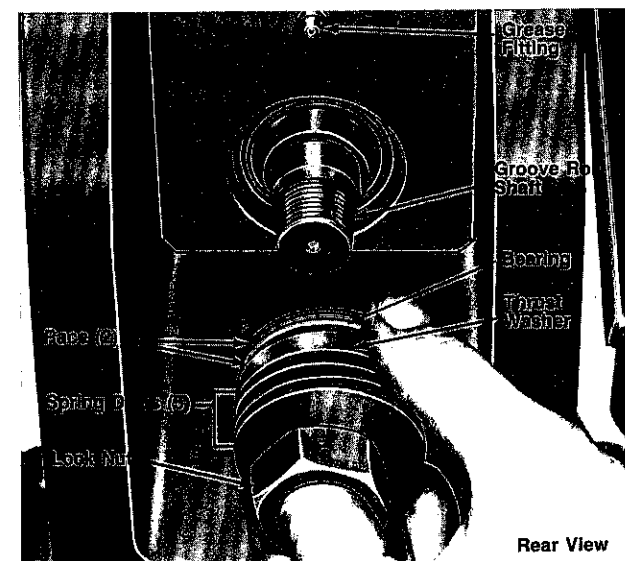
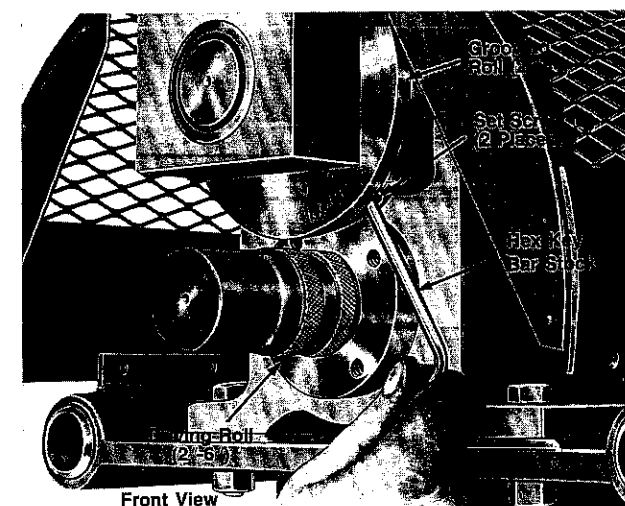
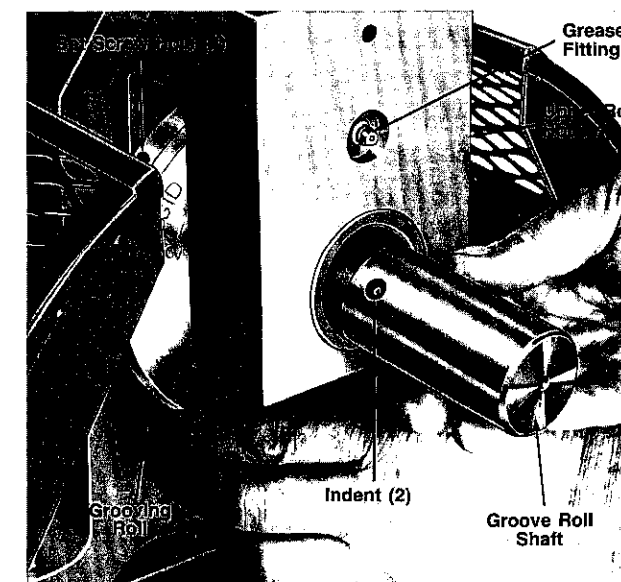

Figure 28. Groove Roll Shaft
Figure 29. Groove Roll and Shaft Connection
Figure 30. Installing Groove Roll
2. Loosen and remove Groove Roll Shaft Lock Nut with 1 5/16" socket and remove Spring Discs, Thrust Washer, Races and Bearing (Figure 28).
**Note:** Groove Roll Shaft must be wedged to Drive Roll to loosen Lock Nut. Use small Bar Stock in Groove Roll Set Screw holes (See Figure 29).
3. Loosen Set Screws (2) from access holes (2) in Groove Roll with 3/16" Hex Key (Figure 29).
4. Remove Groove Roll Shaft and slide out Groove Roll (Figure 30).
8. Tighten Groove Roll Set Screws (2) making sure they seat in Indents (2) of Groove Roll Shaft (Figure 30). Torque to 40 Ft.-Lbs.
9. Reinstall Races, Bearing, Thrust Washer and Spring Discs (5). Note order in Figure 28.
**Caution:** Spring Discs (5) are cupped and must be installed offset to each other to create the required spring tension.
**Note:** Groove Roll Shaft must be wedged to Drive Roll to tighten Lock Nut. Use small Bar Stock in Groove Roll Set Screw holes (See Figure 29).
2. Loosen and remove groove roll shaft lock nut with 15/16" socket and remove spring discs, thrust washer, races, and bearings. (Figure 28).
**Note:** To loosen groove roll shaft lock nut; groove roll shaft must be wedged to loosen lock nut. Use small bar stock in groove roll set screw holes. (Figure 29).
3. Loosen set screws (2) from access holes (2) in groove roll with 3/16" Hex key (Figure 29).
4. Remove groove roll shaft and slide out groove roll (Figure 30).
7. Tighten groove roll set screws (2) making sure they seat in indents (2) of groove roll shaft. Torque to 40 ft/lbs.
8. Reinstall races, bearing, thrust, washer and spring discs (5). Note order in (Figure 28).
**Caution:** Spring discs (5) are cupped and must be installed offset to each other to create the required spring tension.
**Note:** To tighten groove roll shaft lock nut; groove roll shaft must be wedged to tighten lock nut. Use small bar stock in groove roll set screw holes (Figure 29).